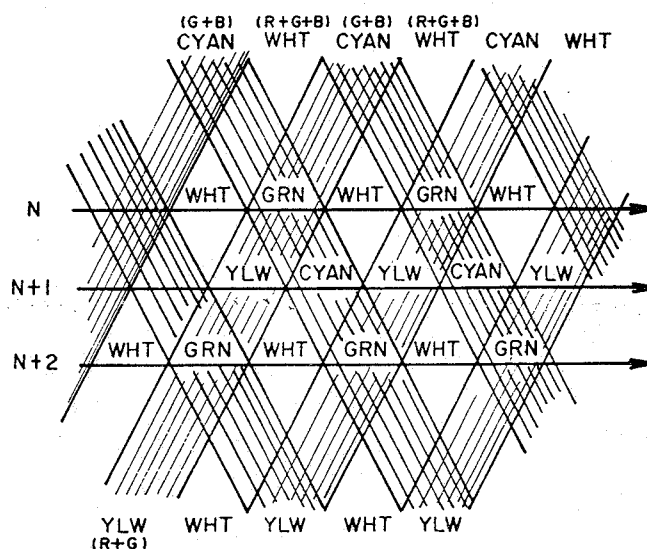
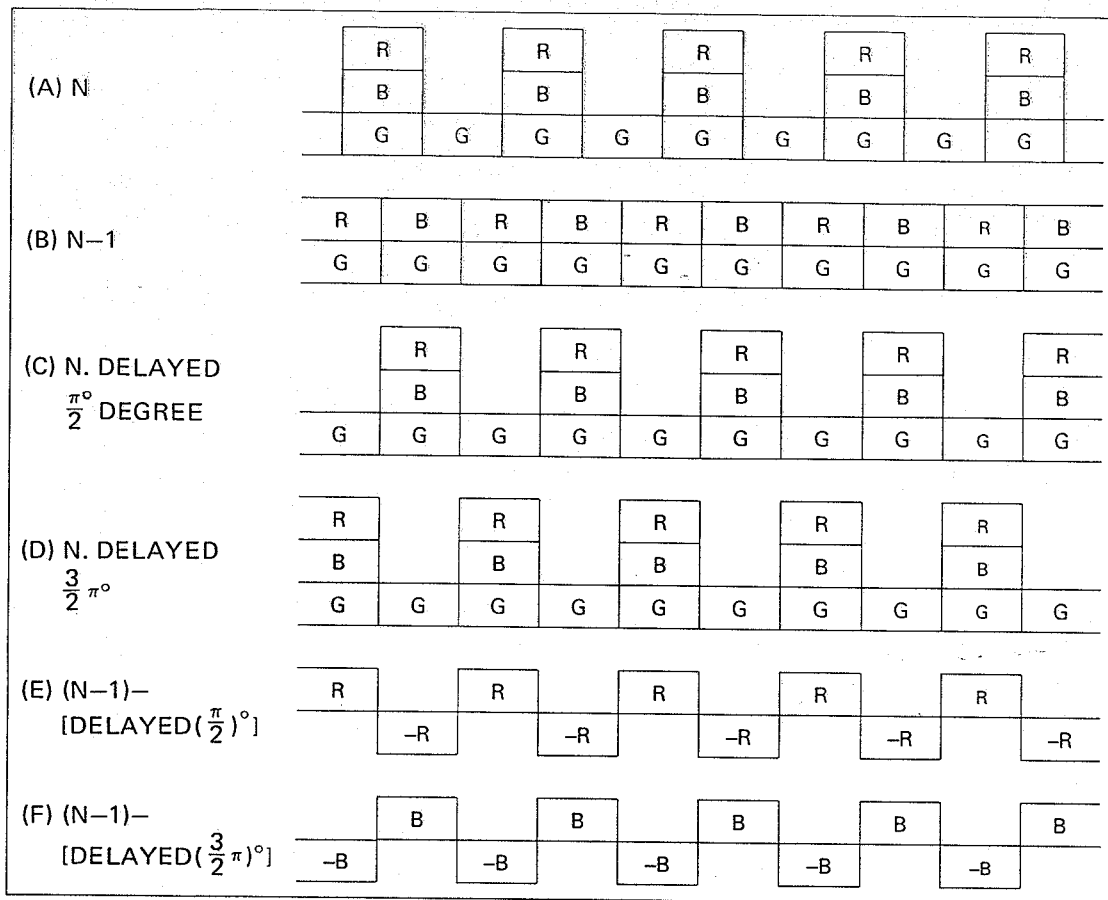
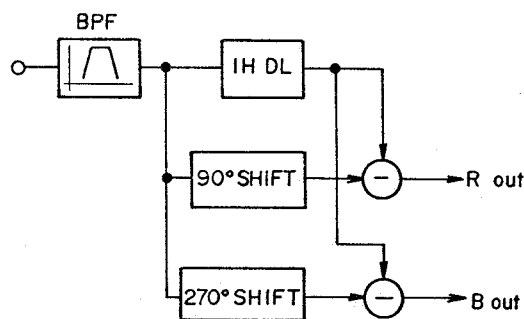

Fig. 5-14 Stripe Filter
Fig. 5-15 Output Waveforms
Fig. 5-16 Color Separation Circuit
On the stripe filter, yellow and cyan stripes intersect at a specified angle from the vertical as illustrated in Figure 5-14. Scanning takes place horizontally from left to right.
Suppose that a white subject is being shot. Various voltage waveforms resulting from photoelectric conversion through the stripe filter in the Saticon are shown in Figure 5-15.
The waveform in Figure 5-15, (A) is produced when the repeated white/green portion on the stripe filter is scanned along a straight line.
Then, as the next scanning line passes over the repeated cyan/yellow portion, the waveform shown in Figure 5-15, (B) is generated.
The basic circuit used for the purpose is shown in Figure 5-16. With VC-X2, a signal which has its phase shifted 270° is produced in IC9 AN6031. If waveform (A) in Figure 5-15 is supplied to this color separation circuit, it will be shifted 90° by TR5, resulting in the waveform shown in Figure 5-15 (C) being produced. In addition,
after being inverted and shifted  $270^\circ$  within IC9 AN6031, the waveform should appear as shown in Figure 5-15 ⑤. When the waveform ⑤, obtained by delaying waveform ④ by 1H, is electrically subtracted from the waveforms ③ and ⑤, the R-signal and B-signal are separated.
To detect the dark current, a black mask is mounted on part of the image pick-up tube as illustrated in Figure 5-14. The purpose of the black mask is to prevent the incident light from entering the tube for part of the horizontal scanning time. A black current is the current that flows at the time the masked portion is scanned by the beam. The output waveform is shown in Figure 5-15. During the time when the dark current only is flowing, the black level of the video signal is maintained at a given level for a period of time during which the clamp pulse is supplied to the base of TR1, which forms part of a clamp circuit consisting of C1, C2, TR1, R1 and R2. (See Figure 5-16.)